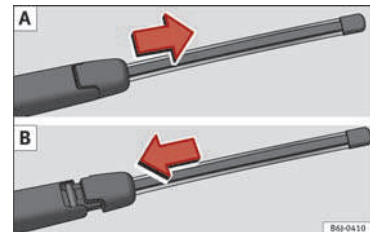

Fig. 76 Removing and fitting the rear window wiper blade.
- Slide the blade adapter in the direction of the arrow and remove the blade » **Fig. 76 A**.
- Place the blade as shown in » **Fig. 76 B** and slide the adapter along until it engages.